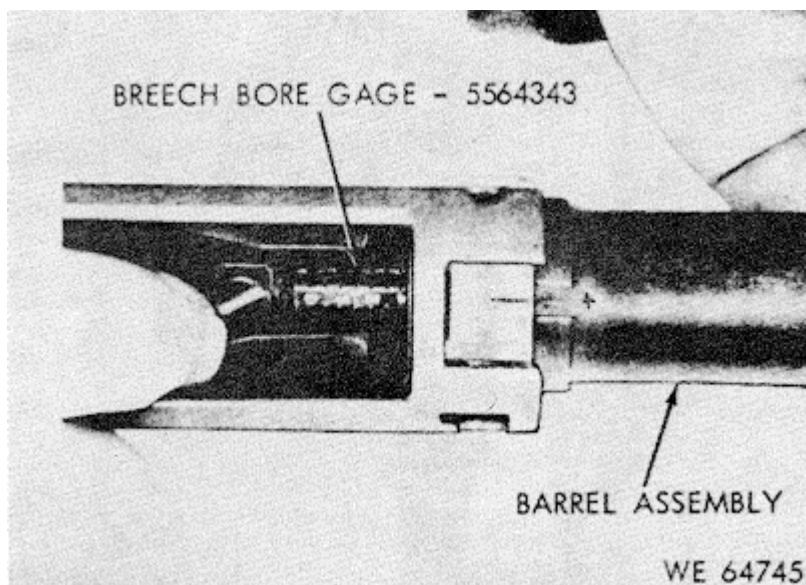

Figure 3-10. Gaging of breechbore.
1. Gaging Breech Bore. Barrels having been visually inspected and found serviceable will be gaged, using breech bore gage 5564343 as illustrated in figure 3-10. If gage readings exceed 0.310 inch on barrels in hands of troops in field or 0.306 inch at preembarkation inspection, such barrels will be replaced.
d. Check breechbore (fig. 3-10).